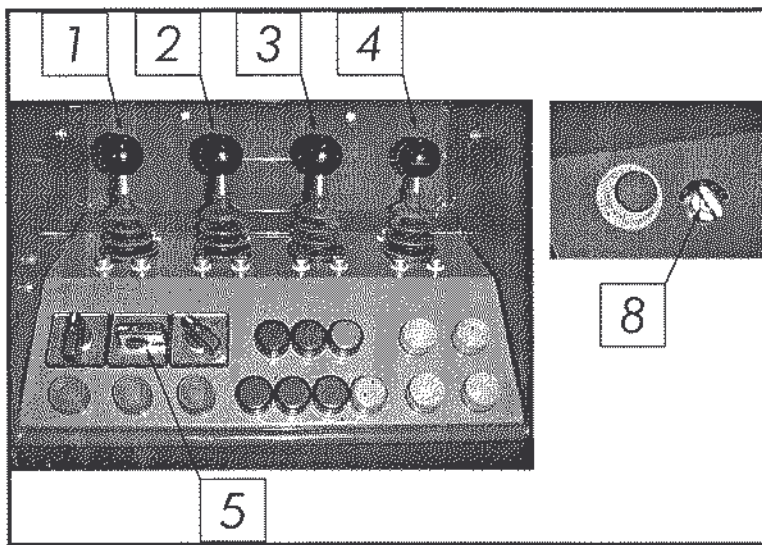

Figure 10-2. Control levers on the platform
3. Start the engine from the ignition lock 8 (figure 10-2) on the platform. Do not press the foot pedal.
4. Turn the selector switch 5 (figure 10-2) for outriggers / driving and steering to position OUTRIGGERS.
levers 1,2,3 and 4 (figure 10-2). Note that when the outriggers are used the booms must be in transport position.